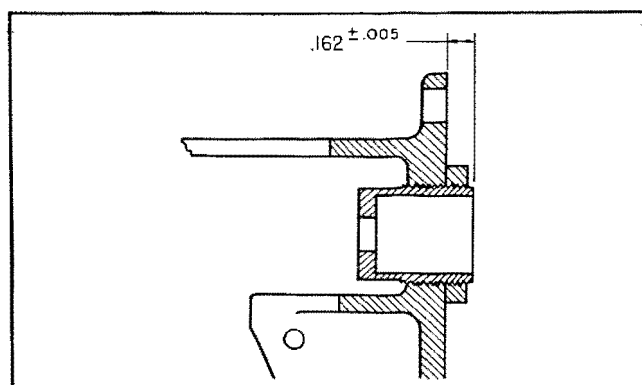

Figure 40
(1) Dust off the chassis and back plate. Remove any oil or grease spots with cleaning solvent, Federal Specification No. P-S-661a.
(2) Inspect the contact assemblies. Check the insulation for breaks. Check all soldered connections.
(3) Check the wiring for continuity and run a Megger test (500 to 600 volts) between the receptacle shell and each of the prongs. The Megger should register 8 megohms or more. Replace the receptacle or leads as necessary.
(4) Check to see that all attaching screws are tight.
(5) On chassis used with the Type C-1 Turn Indicator and the Navy Directional Gyro Indicators check the position of the caging shaft bushing. The bushing must project from the machined surface 0.162 ± 0.005 inch. (figure 40).
(5A) On chassis used with the Type C-5 Directional Gyro Indicator, check the freedom and general condition of the "CAGED" flag shaft; also check the position of the caging shaft bushing. The bushing must project from the machined surface $.162 \pm .005$ inch (figure 40).